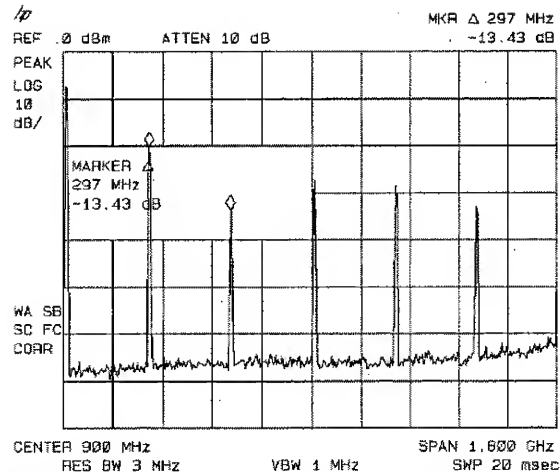

Figure 3-13. Using the Marker Delta Function
4. The amplitude and frequency difference between the markers is displayed in the active function block and in the upper-right corner of the screen. See Figure 3-13.